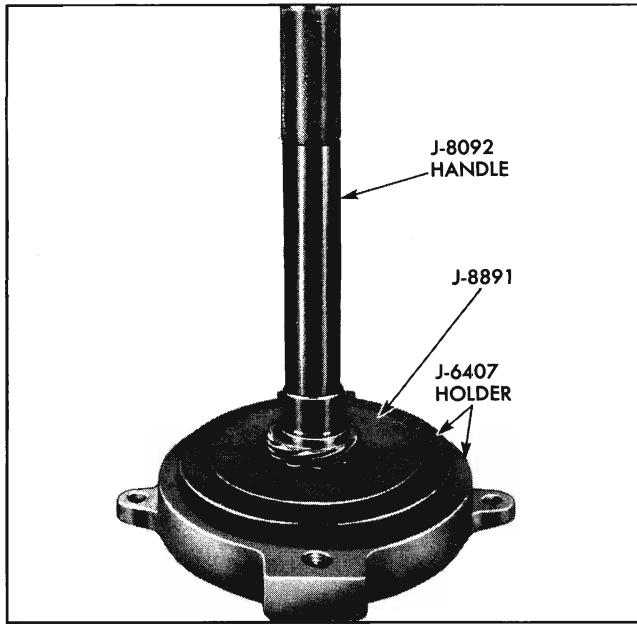

Fig. 4-37 Removing Speedometer Drive Gear
3. Press off speedometer gear using J-8891 held in J-6407 holder and J-8092 handle (Fig. 4-37).